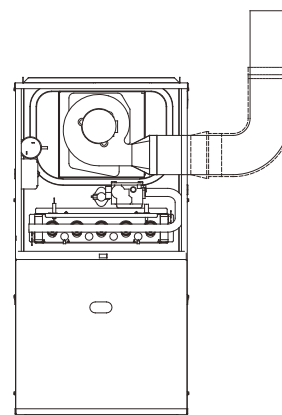

Fig. 6-14 Upflow Application-Vent Elbow Right Pressure Switch Relocated
- 3) Upflow Right Side Venting Fig 6-14